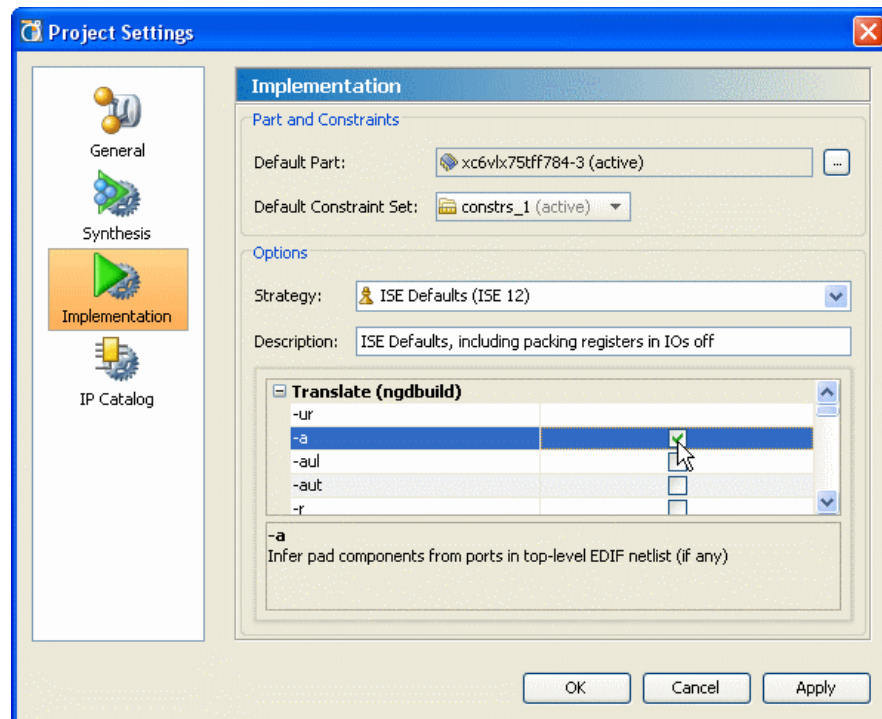

Figure 3-34: Implementation Project Settings Dialog Box
- Strategy options can be overridden by selecting the option directives as shown in Figure 3-34.